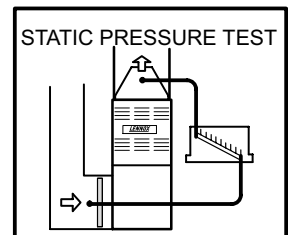

FIGURE 15
- 1 - Tap locations shown in figure 15.